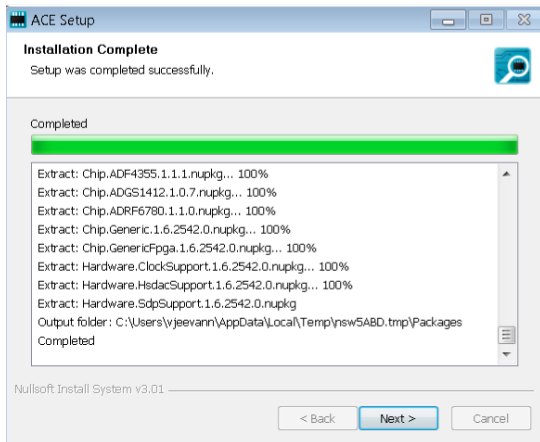

Figure 8. Installation Complete
- The installation is complete (see Figure 8). Click **Next >** and then **Finish** to complete.